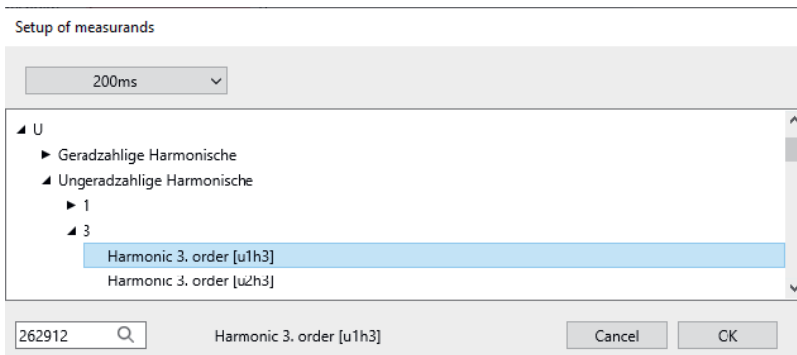

Figure 4: Setup of the measurands
Clicking in the measured value ID field opens another window (2) in which the monitoring variables can be selected. In this setup, you can select all variables that are suitable for measured value monitoring (see Figure 4). To do this, first select the data class in the drop-down menu in the header. Depending on this, the available variables below change. The groups Frequency (F), Current (I), Voltage (U), Power (P) and Other (S) are available for this purpose. It is possible to select the specific measured value directly via the individual groups. Only the measured value IDs can be searched for directly using the search field at the bottom; it is not possible to search for the German names of the measured variables.